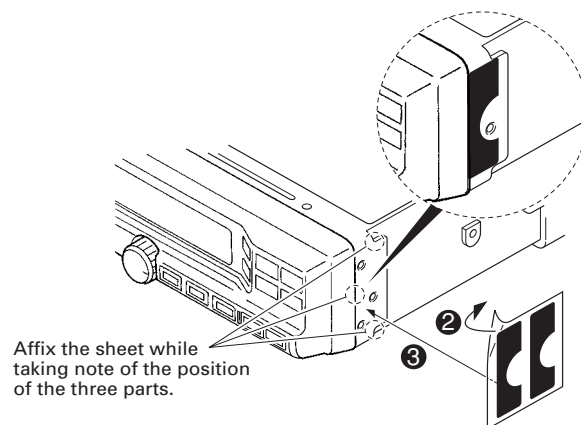

Fig. 1-1-2
4. Affixing the sheet (G11-4379-04) for the waterproof (Fig. 1-1-2).
- (1) Remove the covering paper of the sheet (❷).
- (2) Affix the sheet while taking note of the position of the three parts as shown in Fig. 1-1-2 (❸).